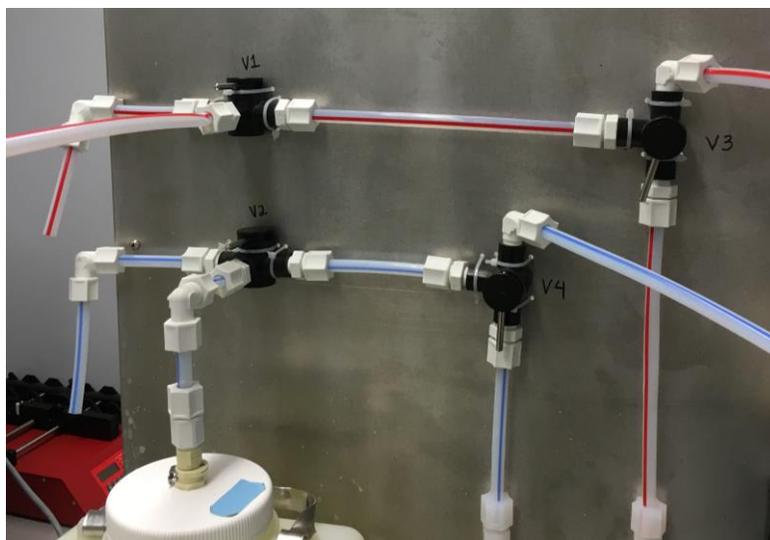
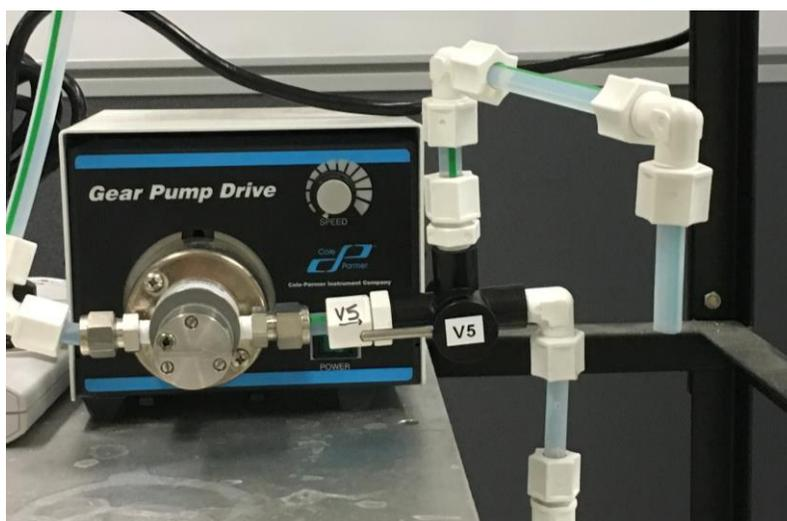

Figure 4: V1, V2, V3, & V4 open-loop configuration
Figure 5: V5 configuration into waste bucket
2. Turn V3 and V4 so the flow is through the glass reactor, as seen in Figure 4. Make sure V5 is flowing into the waste bucket, as seen in Figure 5